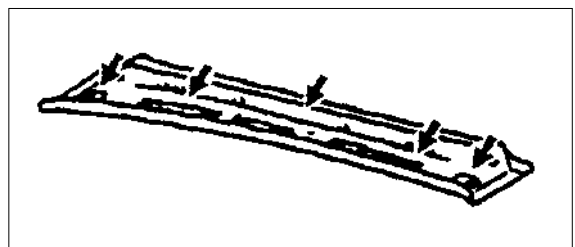

Figure 25
- Check the inside of the windshield frame cover for touching or rubbing signs (Figure 25, arrows).